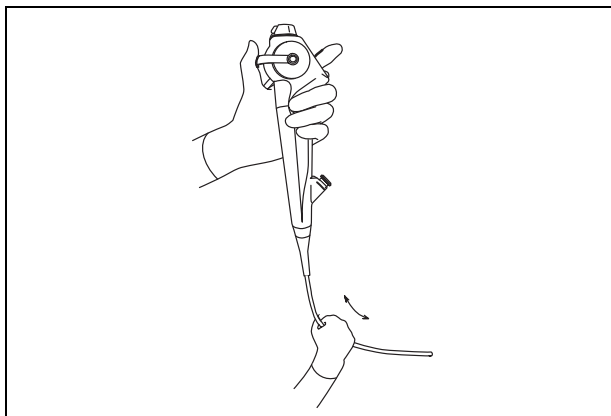

Figure 3.2
4. Carefully run your fingertips over the entire length of the insertion tube. Inspect for any protruding objects or other irregularities. Also confirm that the insertion tube is not abnormally stiff (see Figure 3.2).